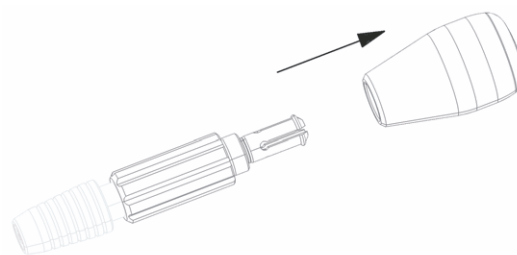

Fig. 8 Disassembling of twist drill handle
6.1 Twist drill handle (1)
- Push handle onto collar against the direction indicated by the arrow, see Fig. 8.
6.2 S⁴ Cervical tap (4)